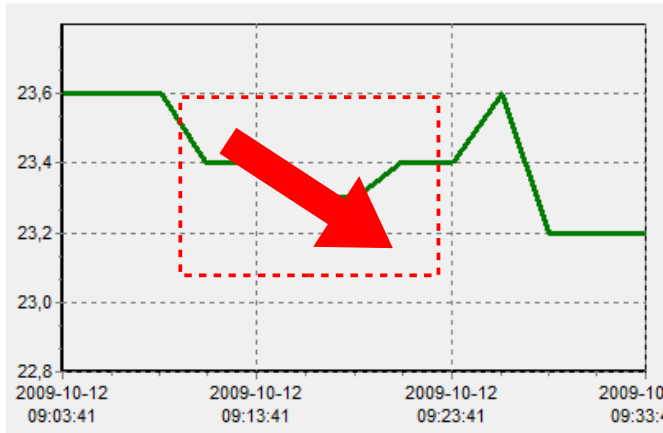

Figure 3.13. Enlarging graph
- **enlarge graph** - a graph can be enlarged by marking the area of interest with the mouse pointer. In order to do this first left-click on the graph and, while holding down the left mouse button, drag the pointer to the bottom right corner of the graph. The rectangle marked this way will be enlarged. (Figure 3.13). To restore main scale of the graph, press left mouse button and move cursor to the left top corner of the graph or use **[Refresh]** push-button.